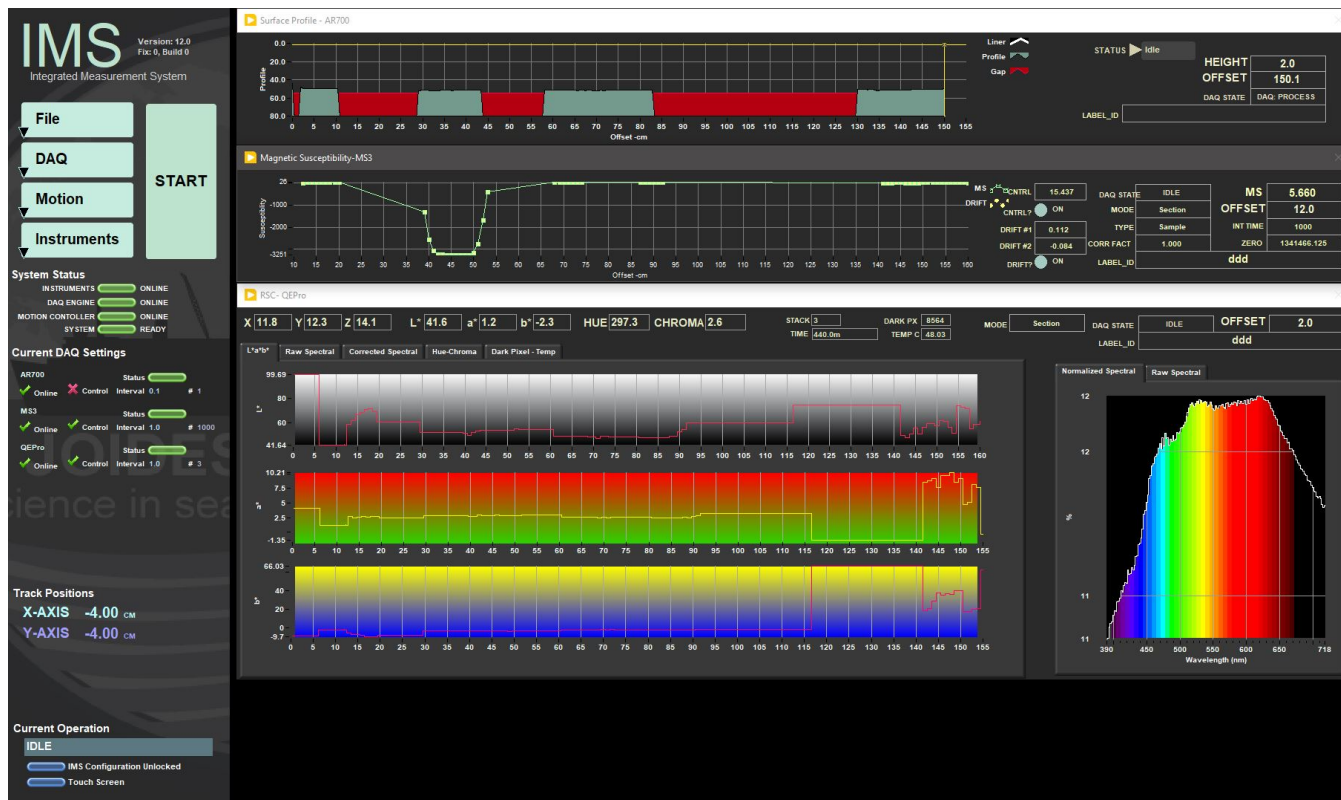

Figure 2. IMS Application Main Screen.
After successful initialization, the main IMS- SHMSL window will appear (Figure 2).
3. Select **Start** from the main **IMS** window (*Figure 2*).